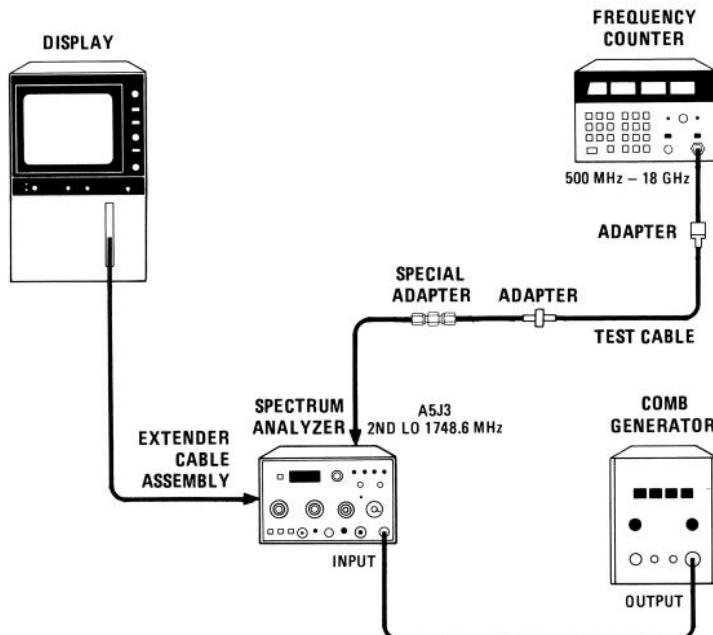
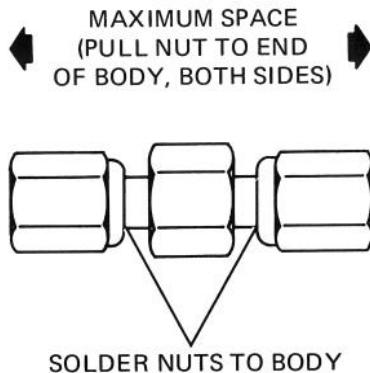

FIGURE 5-1. SECOND CONVERTER LO AND BANDPASS ADJUSTMENT TEST SETUP
FIGURE 5-2. SPECIAL ADAPTER USED IN SECOND CONVERTER LO AND BANDPASS TEST SETUP
Special Adapter .....	See Figure 5-2
The special adapter in Figure 5-1 is made from a SMC (f) to SMC (f) adapter, HP Part No. 1250-1113. The nuts must be soldered to the body of the subminiature RF adapter so they will both turn with the body. Be sure to space the nuts properly before soldering (see Figure 5-2).
2. Connect equipment as shown in Figure 5-1 and switch display mainframe power ON. Connect counter to A5J3 at the top of A5 Converter Assembly. Connect comb generator to HP 8558B INPUT.